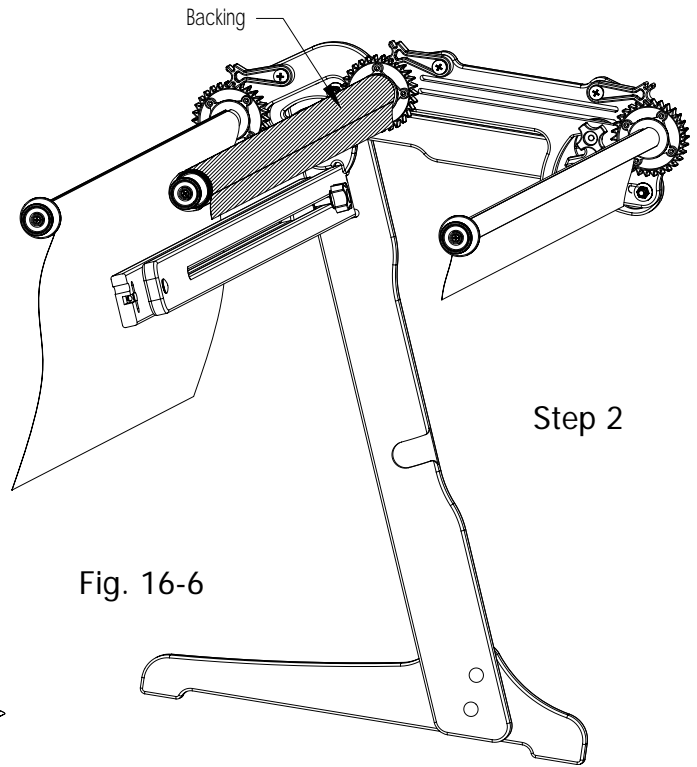

Fig. 16-6
Step 2: Rolling fabric onto middle rail: Next, roll the quilt backing onto the middle rail. To do this properly, be sure to roll the rail counter-clockwise as you look at the frame (toward the ratchet wheels). The fabric needs to roll from off the top of the rail and toward the front rail, as shown in Fig. 16-6.